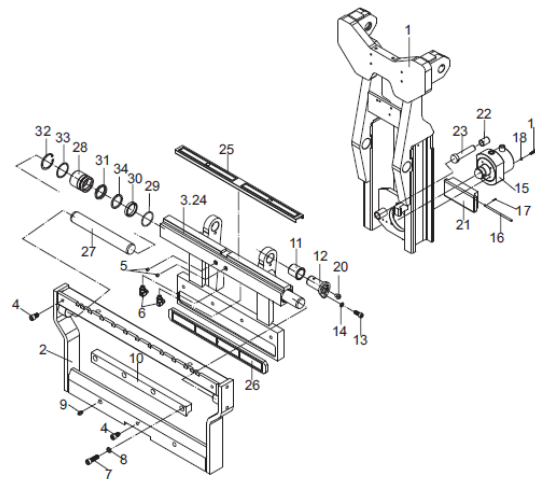

Figure 4-8-7 Diagram of side shifter assembly
Tilting cylinder is installed at the bottom of telescopic fork (item 15 in figure 4-8-7 is tilting cylinder). The tilting cylinder is a double-action piston type cylinder. Be care when carrying out any repair. If there is abnormal leakage on the cylinder